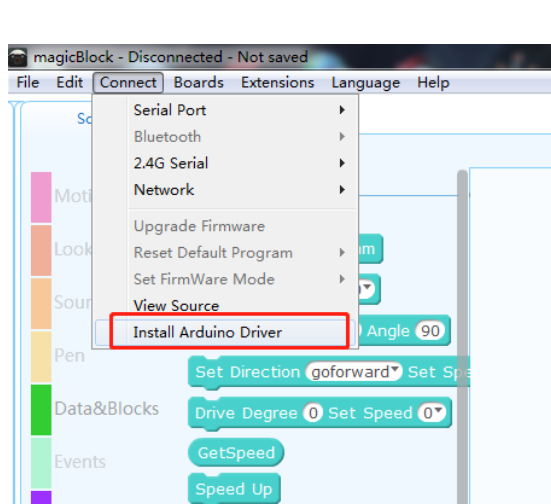
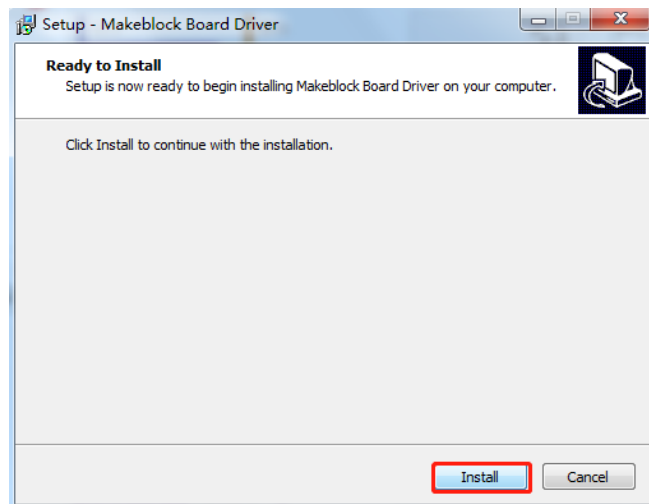

Figure 2-9
Figure 2-10
- 2) Install the Motor Driver Board driver, click "Connect to Install Motor Driver Board driver" as shown in Figure 2-9, and click "Install" as shown in Figure 2-10.
Turn on the serial monitor and we will see Hello Word printing continuously on the serial monitor, as shown in Figure 2-10.